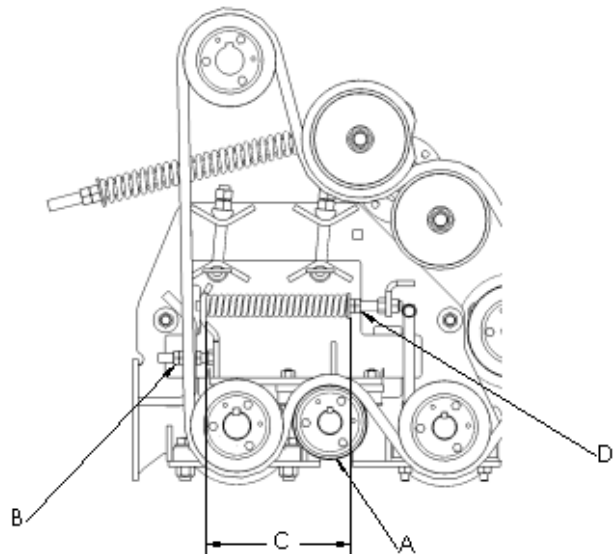

Figure 7-22: Front Drive Belt Replacement
2. Loosen nut (B), shown in Figure 7-22, until the belt is loose.
4. Tighten nut (B) until spring length (A) is 13.5 inches (34 cm).
5. Lock double nuts (B) and check the alignment of the sheaves.
7. Adjust nuts (D) to readjust rock trip spring compression (C) to 8.5 in. (21.7 cm)